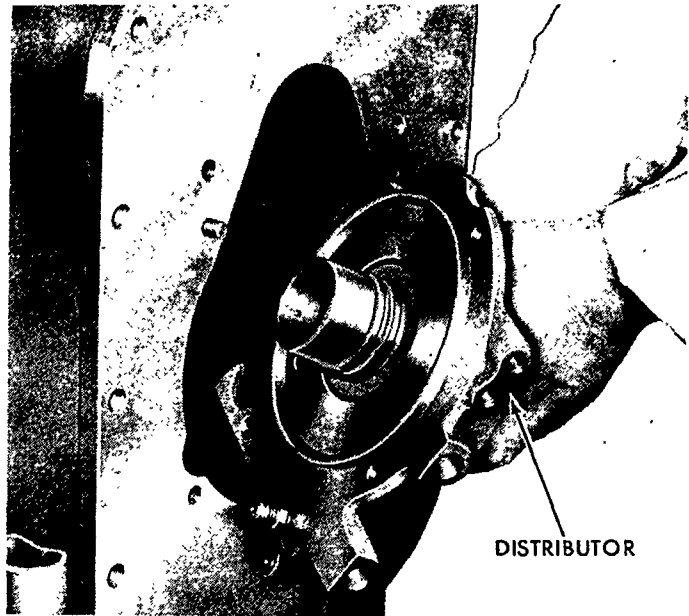

Figure 73
13. Remove the distributor as shown in Figure 73.